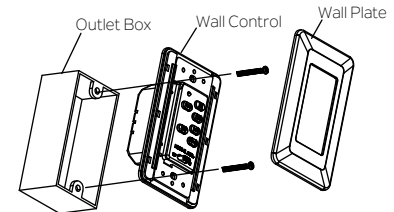

Fig. 22
Step 2. Use the screws provided to secure the wall control to the outlet box.(Fig. 22)